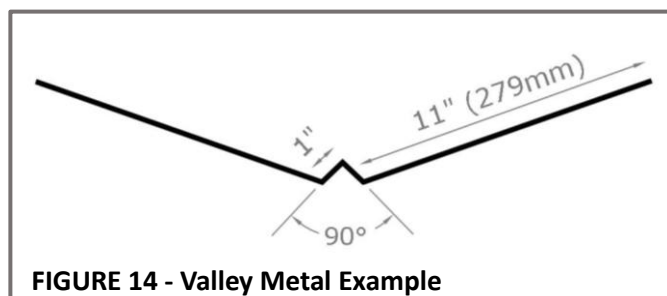

FIGURE 14 - Valley Metal Example
- VALLEY METAL** - Consult local building codes for width of metal valley and for allowed materials. The width should be a minimum of **12" (305mm)** on each side. F-WAVE recommends the use of a W-style valley metal. See **Figure 14**.